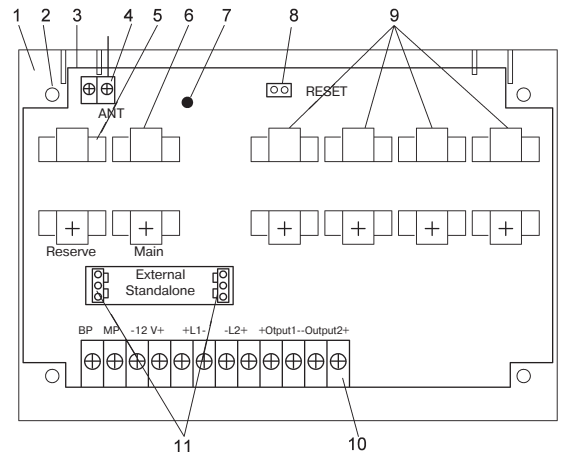

Figure 1 – BKV-RK with removed cover
1.7 BKV-RK is supplied from the external power supply with rated voltage 12 V or CR123A batteries (main, backup and four extra ones) located inside the BKV-RK case. Power supply selection is fulfilled by applying jumpers in correspondent position (See Figure 1).
BKV-RK design with removed cover is shown in Figure 1.
Remove short-circuit by opening contacts (11) (See Figure 1).